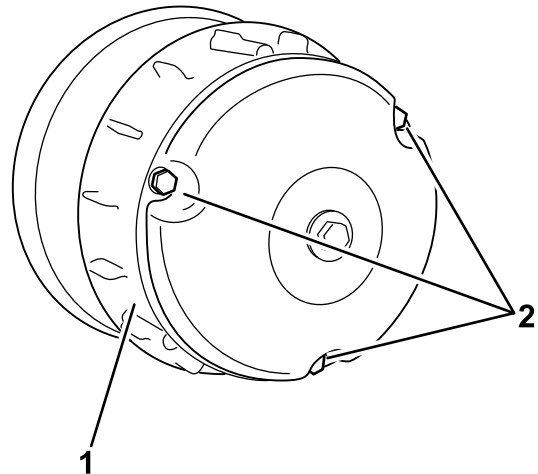

Figure 60
2. Remove the 3 bolts securing the cover to the clutch, and remove the cover (Figure 60).
4. Install the clutch cover and secure it with the 3 bolts (Figure 60) that you removed in 2.